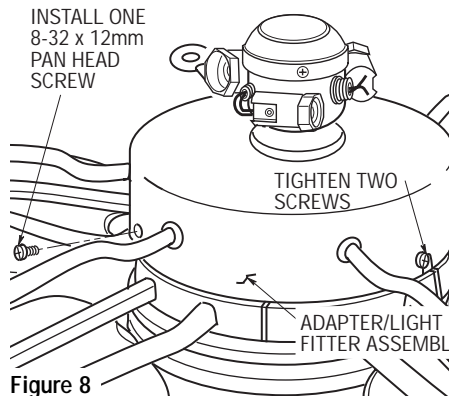

Figure 8
- 13. Position the two slots in the adapter/light fitter assembly over the two 8-32 x 12mm screws in the rim of the adapter plate (Figure 8). Turn the adapter/light fitter assembly counter-clockwise and tighten the screws.
- 14. Install another 8-32 x 12mm pan head screw in the remaining hole to secure the adapter/light fitter assembly (Figure 8).